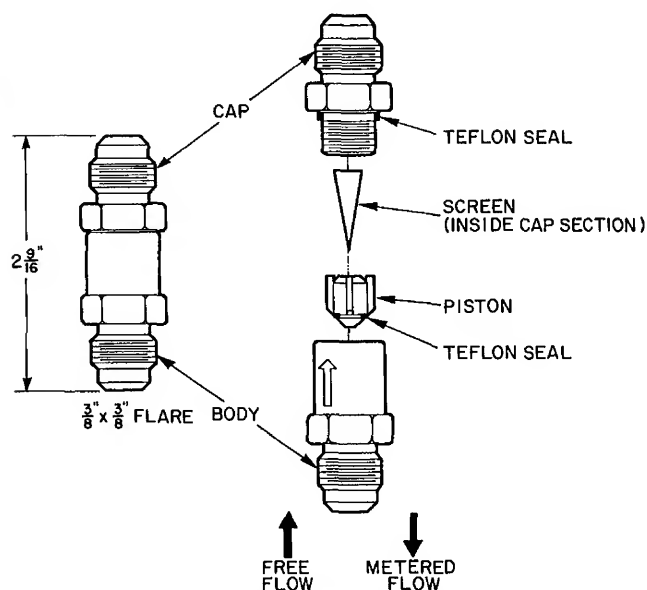

Fig. 7 — AccuRater® Assembly
6. Assemble and install AccuRater®. See Fig. 7 and Table 4. AccuRater body is marked with an arrow that indicates the free flow direction. AccuRater piston must be installed with Teflon seal facing the opposite direction of the arrow. AccuRaters are installed in liquid line at each indoor fan coil with arrows pointing away from coil.